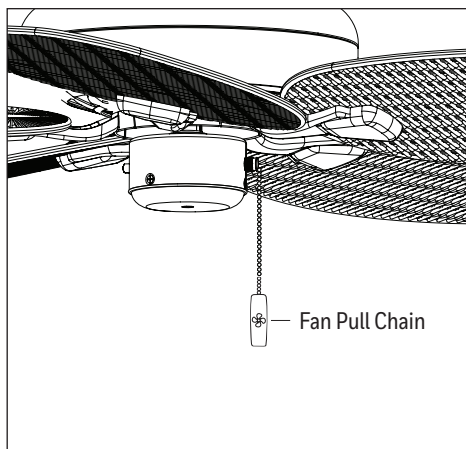

Figure 6.1
1. The fan pull chain has four positions to control fan speed. One pull is high, two is medium, three is low and four turns the fan off (Figure 6.1).